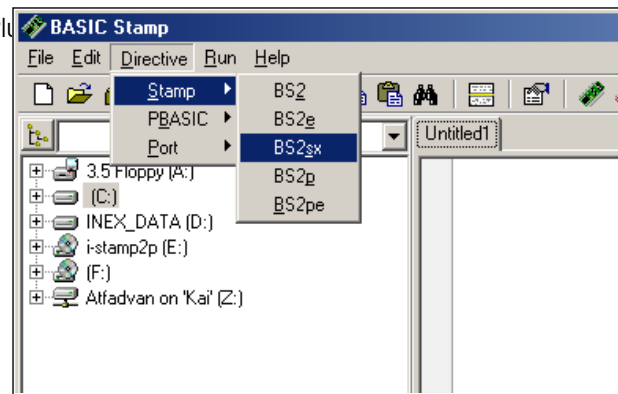

Figure 4 Show directive selection. In this figure select BS2SX directive
4.2 Open BASIC Stamp editor program. Go to **Directive** menu select **BS2SX**. User can see directive message `{ $STAMP BS2sx }` on the top line. Please press Enter (Figure 4).